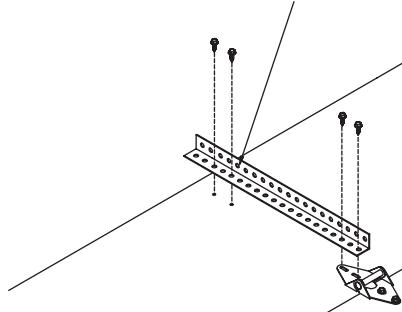

FIG. 10-A
To avoid damage to your door, you must reinforce the top section of the door in order to provide a mounting point for the opener to be attached. You will need one (1) or three (3) pieces of 1-1/4" x 1-1/4" minimum punched angle at least 13 gauge or 3/32" thick from your local hardware or building supply store. Figures 10-A to 10-D show how punched angle is to be affixed to door. Angle iron may need to be trimmed depending on door section height and distance between center stiles.